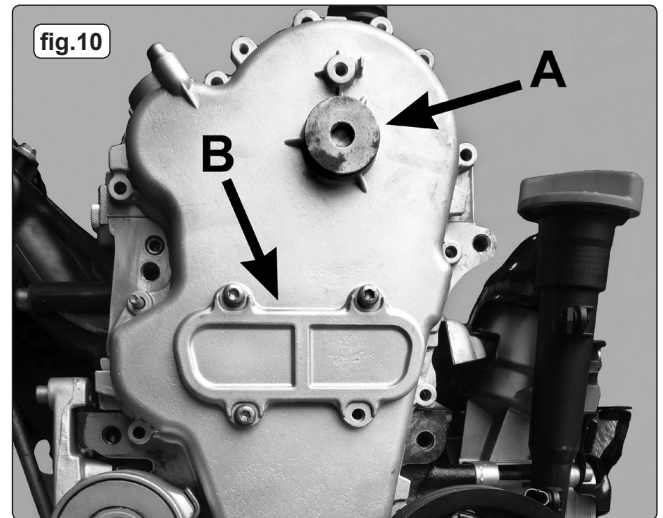

fig.10
- 3.9.1. To provide for cylinder head/camshaft removal without disturbing the front-end timing cover, access to the exhaust camshaft sprocket retaining bolt and the timing chain tensioner is provided via service hatches A and B in the front timing cover (fig.10).